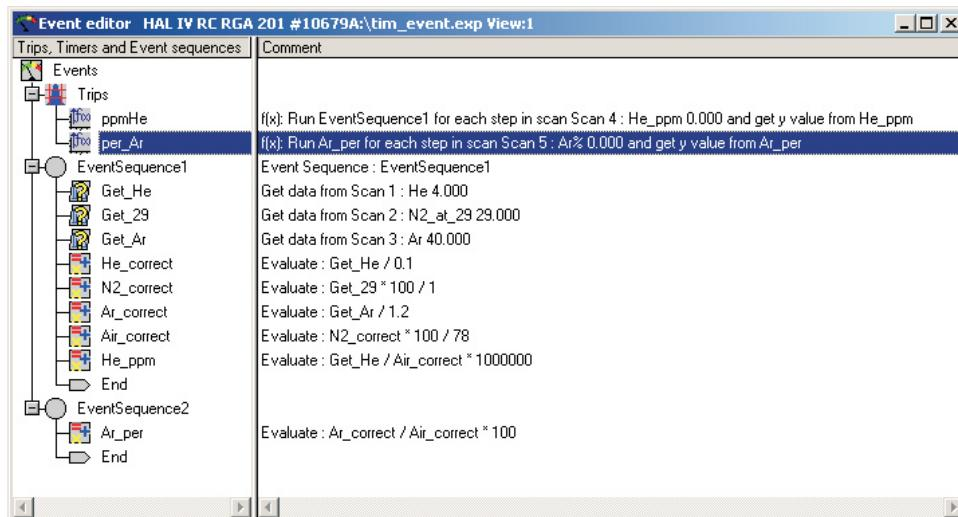

Figure 78 Completed event sequence
- The event sequence will look like the one shown in Figure 78.